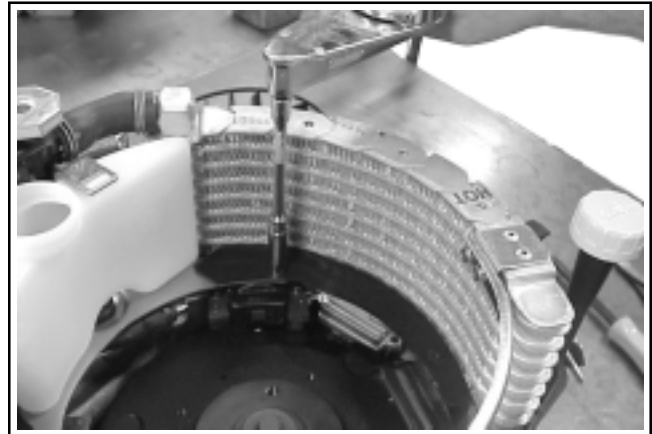

Figure 11-90. Installing Baffle Screws.
1. Install the #1 and #2 blocking plates into the radiator supports as shown in Figure 11-90. If two different types of screws were used, install the two screws with the flanges in the locations **closest** to the intake manifold. Torque all screws to **3.9 N·m (35 in. lb.)**.